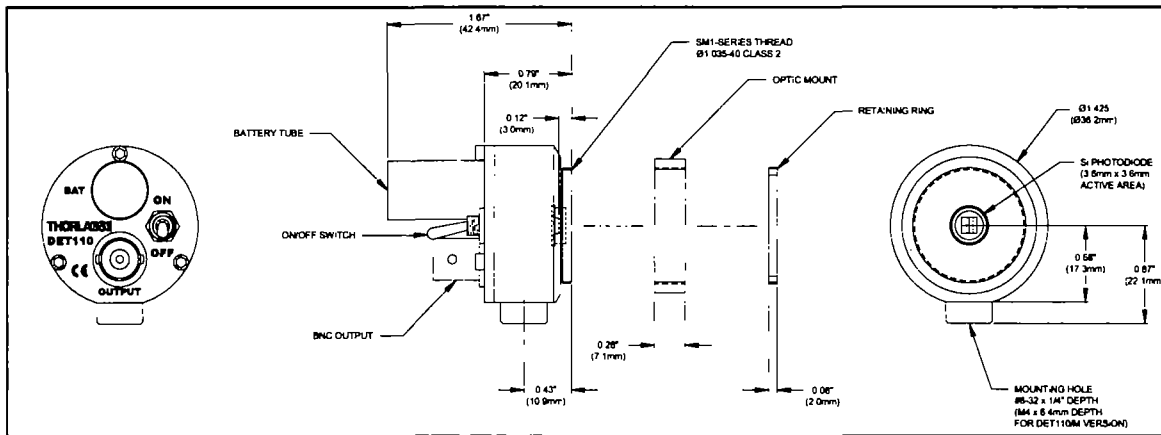

Figure 1. - Mechanical Dimensions
- marked correspondingly with the crossed out "wheelie bin" logo (see fig. 1)
Thorlab's DET series are ideal for measuring both pulsed and CW light sources. The DET110 includes a reverse-biased PIN photo diode, bias battery, and an ON/OFF switch packaged in a ruggedized housing. The BNC output signal is the direct photocurrent out of the photo diode anode and is a function of the incident light power and wavelength. The responsivity,  $\mathcal{R}(\lambda)$ , can be read from Figure 1 to estimate the amount of photocurrent to expect. Most users will wish to convert this photocurrent to a voltage for viewing on an oscilloscope or DVM. This is accomplished by adding an external load resistance,  $R_{LOAD}$ . The output voltage is derived as: